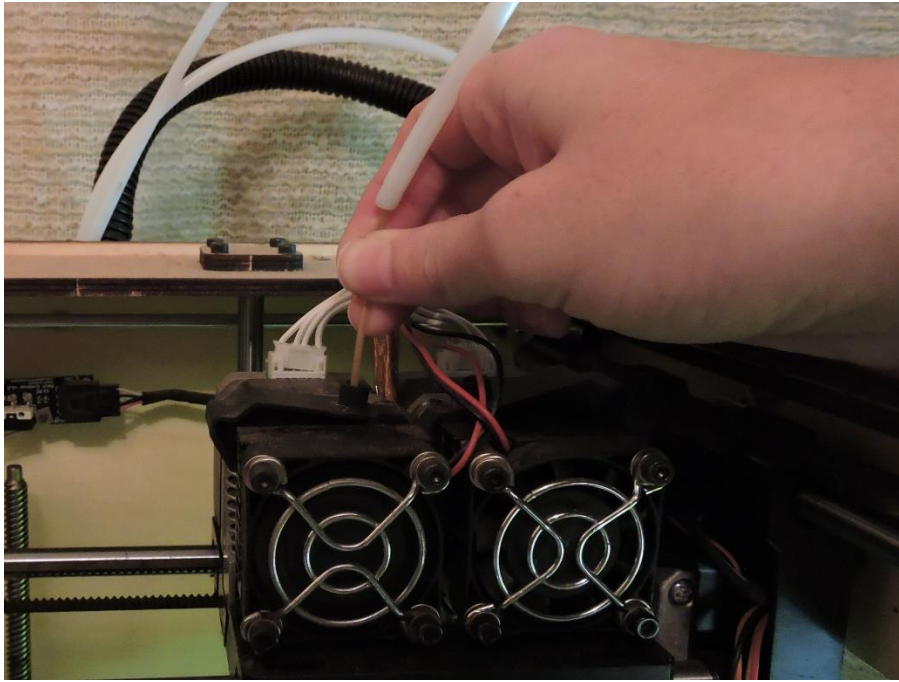

Figure 14 : Feeding Filament During Loading
8. When the feeder motor is switched on, gently feed the filament manually into the top of the print head. See Figure 14.